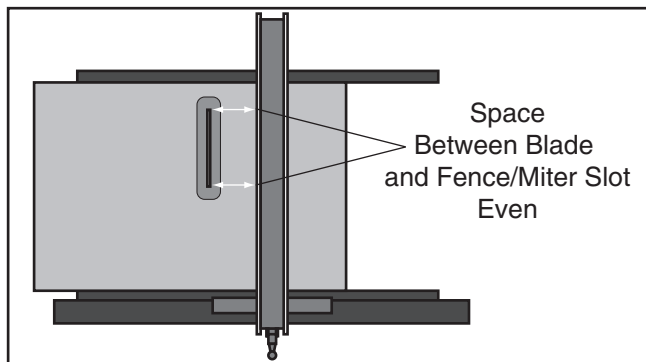

Figure 119. Example of fence aligned parallel to miter slot.
6. Rotate the blade to the other end of the table insert (**Figure 119**), and recheck the distance between the fence and the blade to ensure they are parallel.